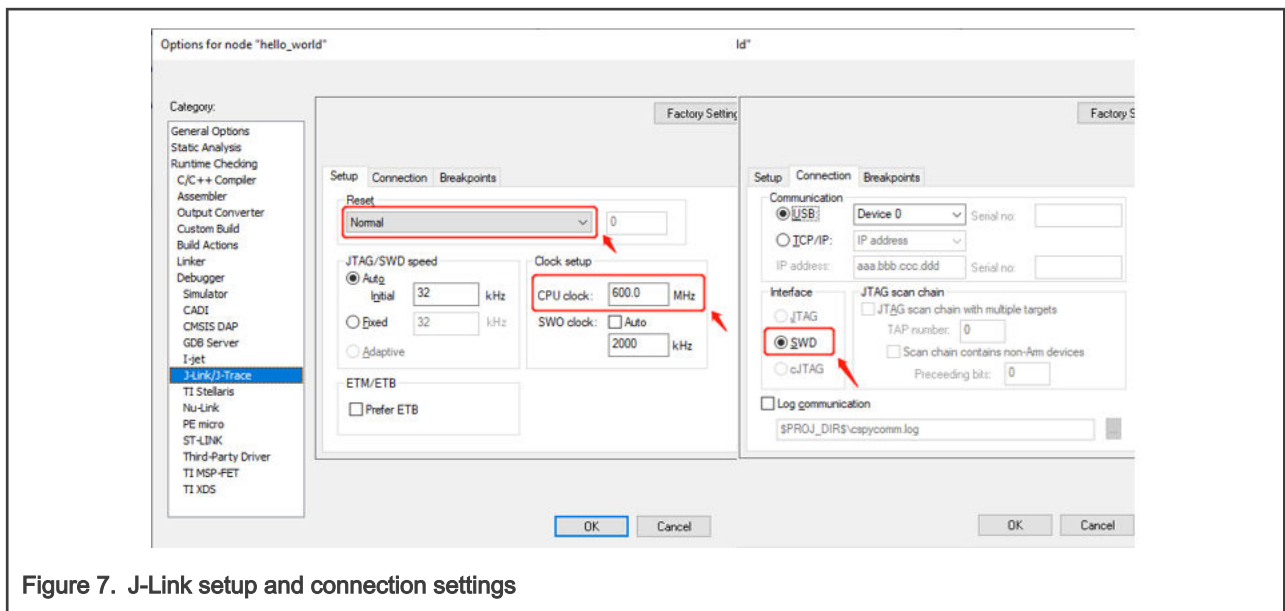

Figure 7. J-Link setup and connection settings
- Click **Project -> Options -> Debugger -> J-Link/J-Trace**. In the **Setup** submenu, set the reset method to **Normal** and CPU clock to **600 MHz**. In the **Connection** submenu, set the interface to **SWD**, as shown in Figure 7.